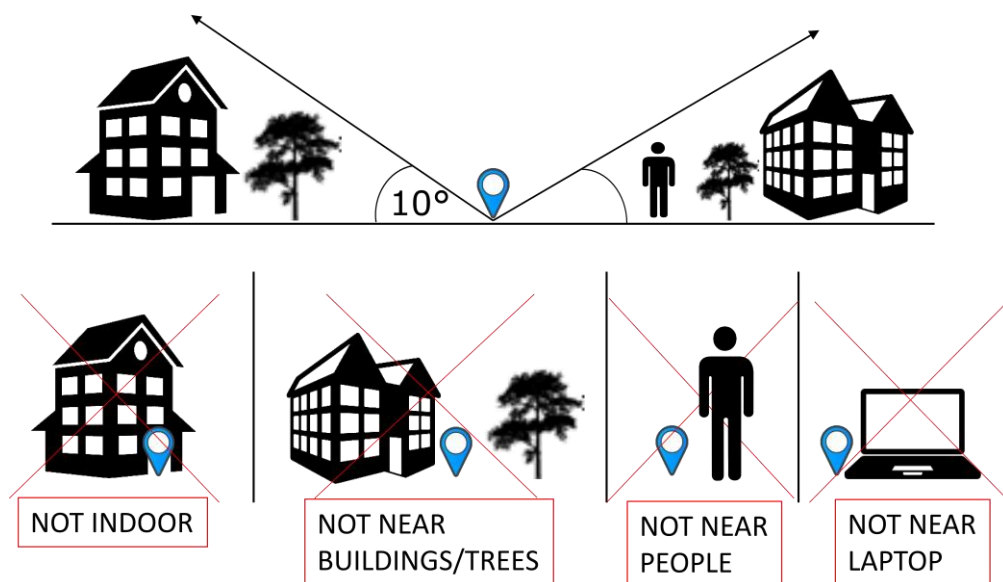

Figure 29: Reference Station placement guideline
- Please connect the GNSS antenna with the marked SMA connector to the Reference Station. The GNSS antenna must stay outside with open-sky environment (see Figure 29).
Recommendation: The GNSS antenna should be fixed mounted on position outside with best possible satellite visibility (see Figure 29). A recommended place would be the roof of a high building or similar places. The RTK correction data of the Reference Station are highly accurate for rovers within 15 km distance from rover (MS-RTK module) to Reference Station. A common way is to fix the Reference Station on a location where the user can calibrate the position once a time and don't change the position again.